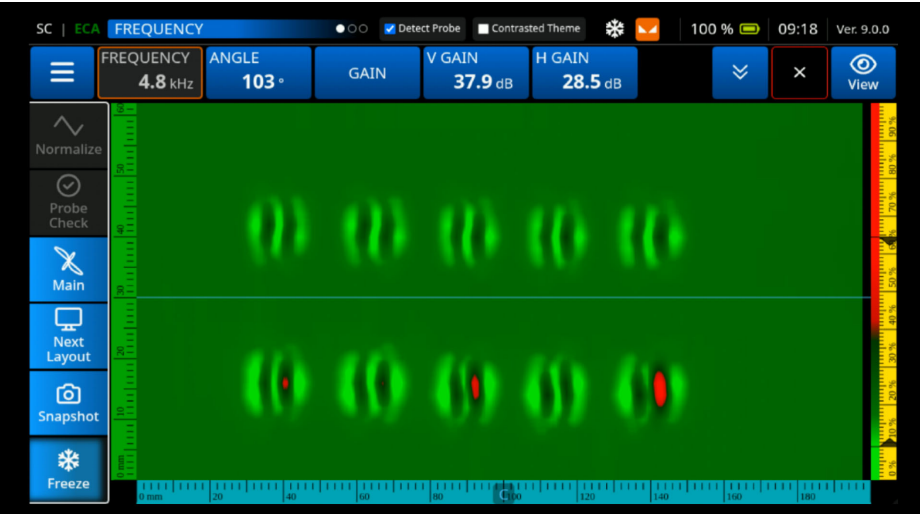

Figure 4-74 Confirm the Readings
4. Scan across the rivet lines and confirm that you acquire good readings (See Figure 4-74 on page 173).